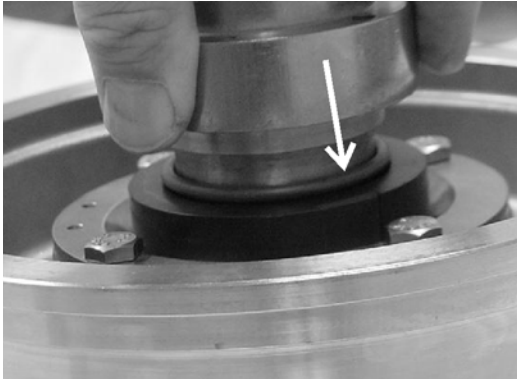

Figure 30 - Installing O-ring Using Spring Retainer
3. Lubricate and slide the seal o-ring onto the impeller shaft. Use the spring retainer as a tool to push the o-ring into the rotary seal (Figure 30).